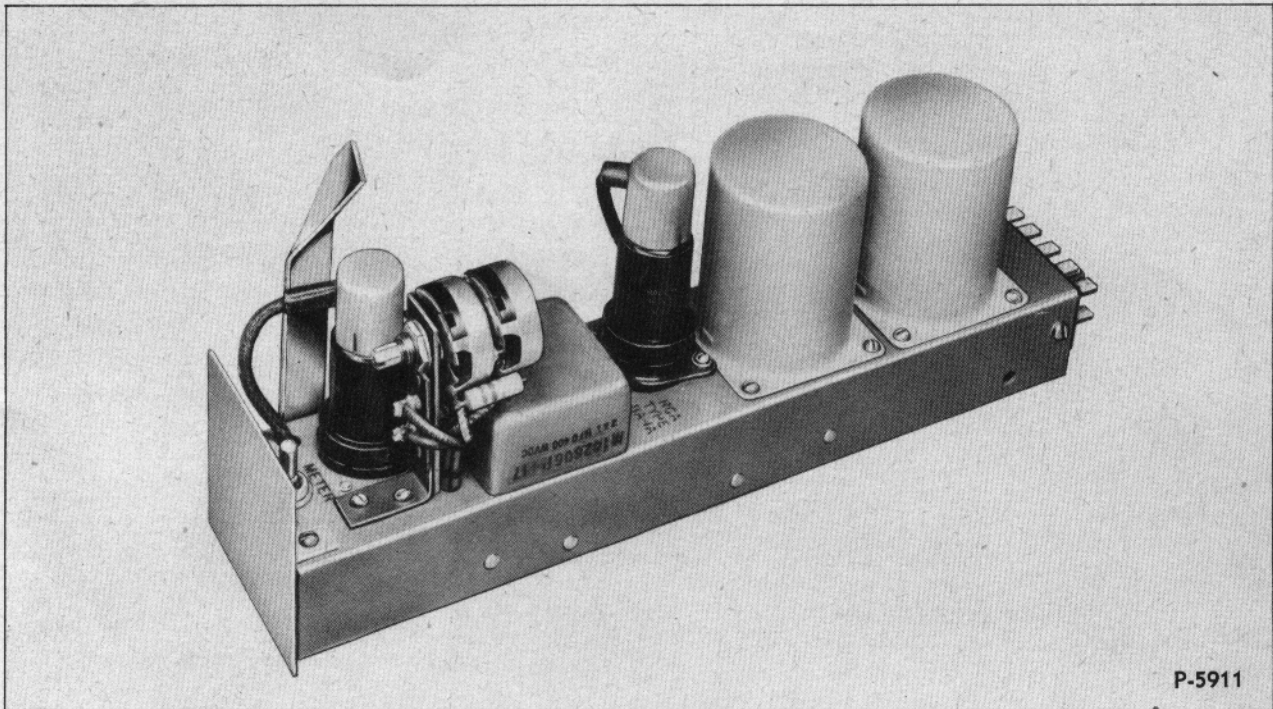

Figure 9—Type BA-1A Preamplifier with remote volume control installed.
15. For bridging service and in applications where a volume control is desirable the MI-11274 or the MI-11274-A Remote Volume Control can be used in conjunction with this preamplifier. Use the MI-11274 if the control is to be mounted on the amplifier chassis. Refer to figure 9. To install the volume control proceed as follows:
d. Connect the two terminals on the terminal board on the bracket of the volume control to terminals number 11 and 12 on the connection plug at the rear of the amplifier chassis, leading the wires down through the hole provided in the upper surface of the chassis. Refer to figure 9.
e. Connect the two end terminals of the dual potentiometer (these terminals have resistor R-1A connected between them) to terminals number 1 and 6 on the input transformer, leading the wires down through the same hole as in step "d." Refer to figure 9 and to the schematic in upper left corner of figure 2.